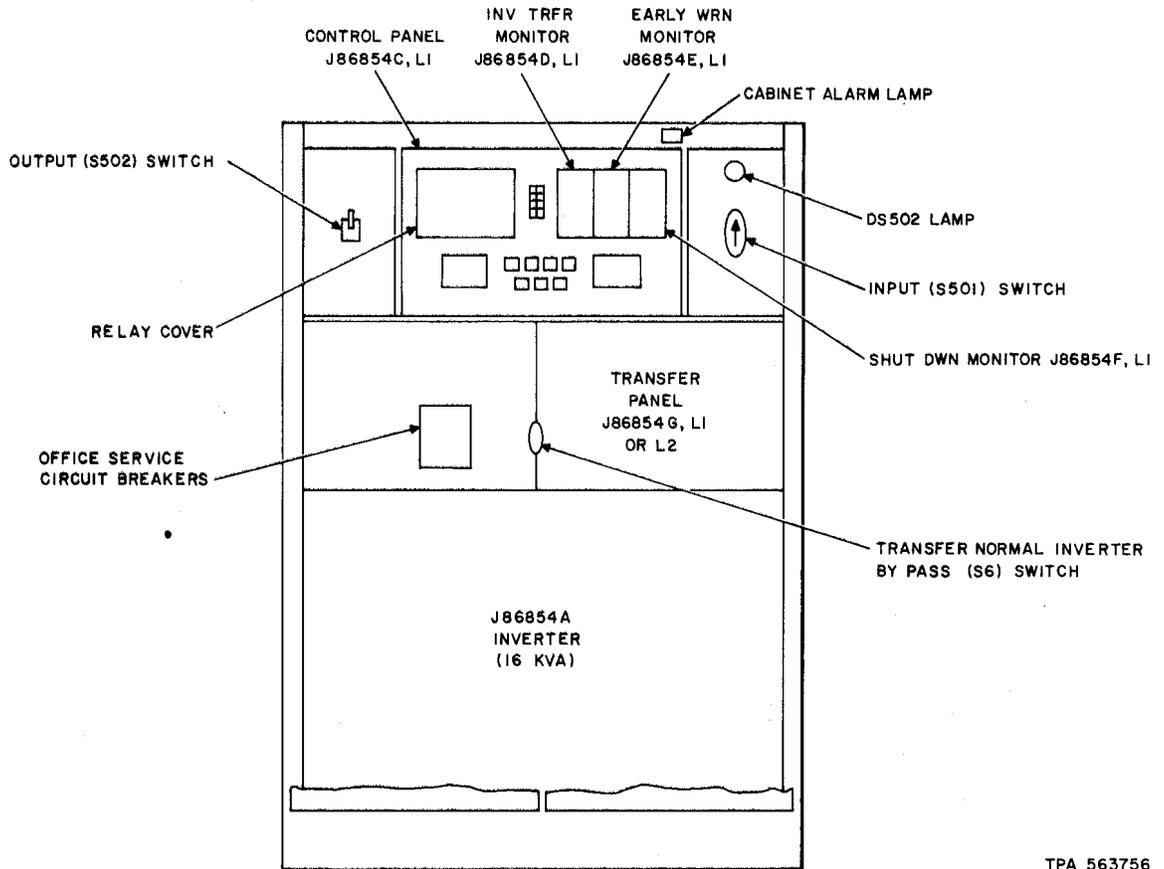
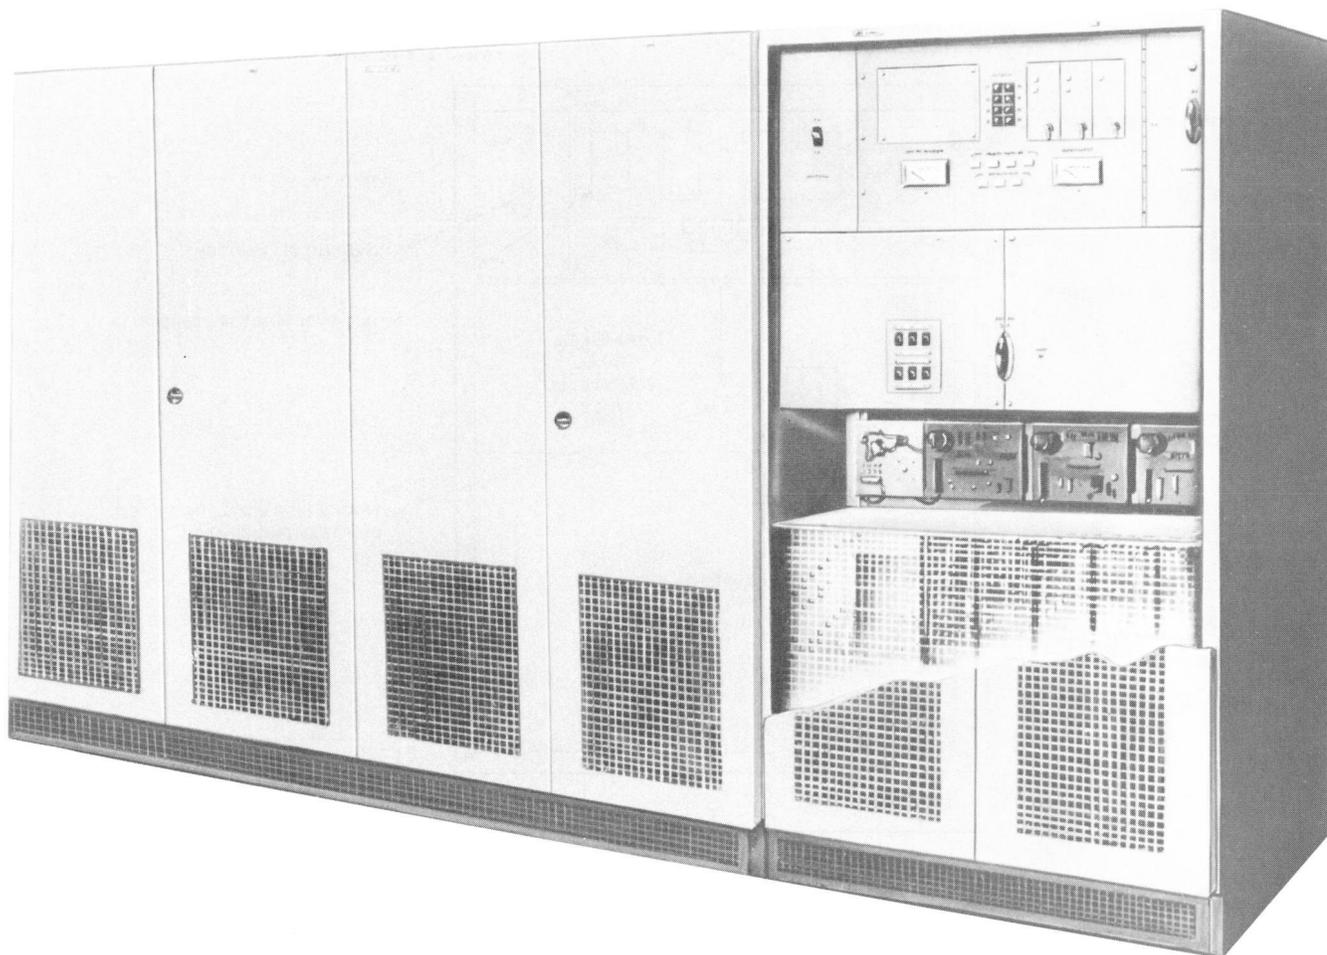
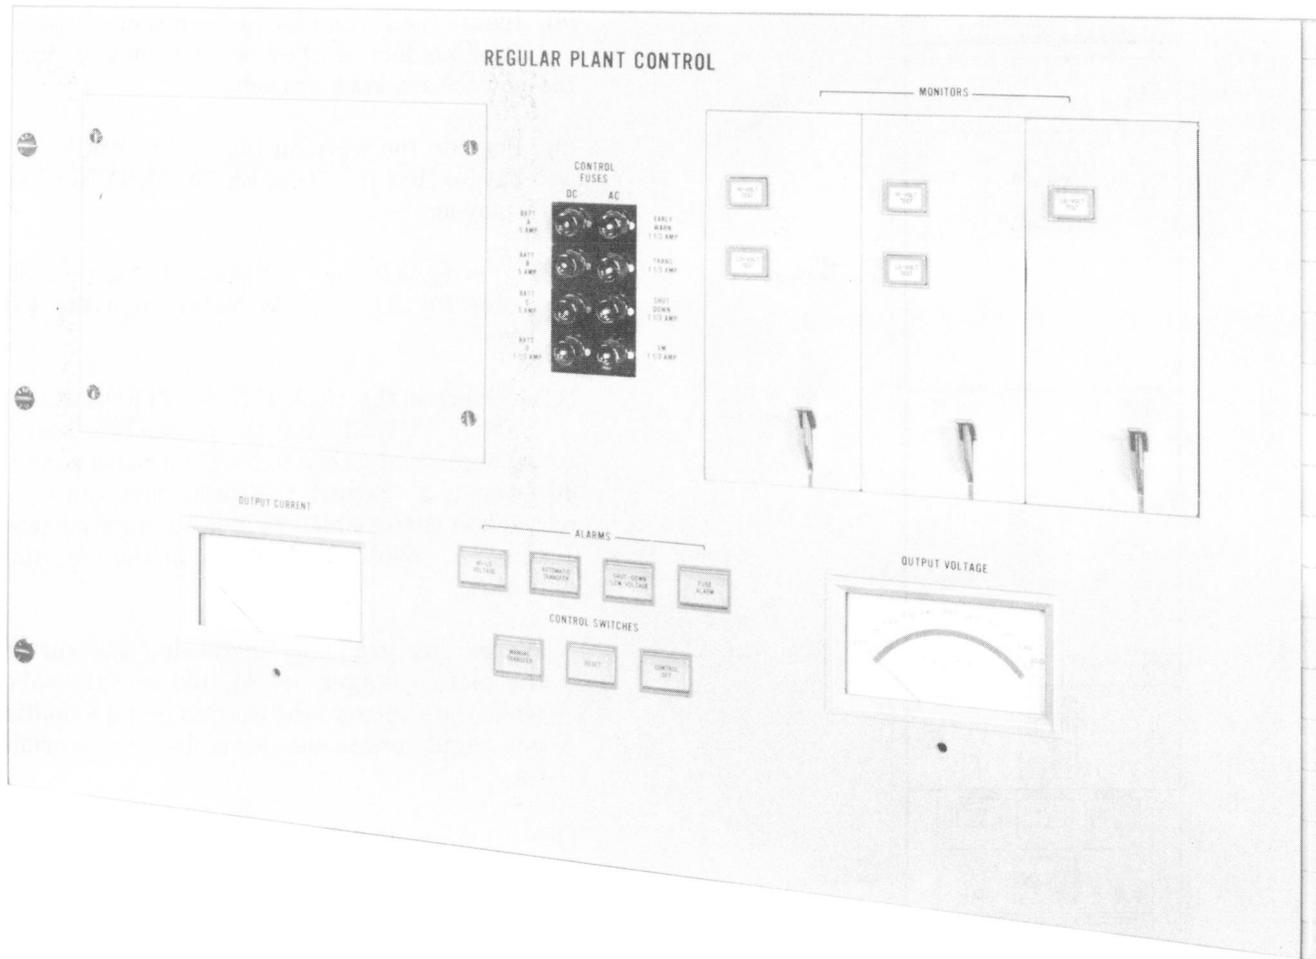

Fig. 6—KS-19738 Inverter
Fig. 7—Partial View of 521A Power Plant Lineup—Cutaway View Shows a KS-19738 Regular Inverter
Fig. 8—J86854C Control Panel of KS-19738 Regular Inverter
1.16 Each inverter in the combination plant must be started manually by the inverter INPUT (S501) switch. The load on an inverter can be manually disconnected from the inverter by the OUTPUT (S502) switch. The CONTROL OFF switch on the REGULAR PLANT CONTROL panel can be used to disable the automatic control circuits of the inverter. Switches are provided for testing the alarm circuits of the inverter. Alarms are provided in the inverter to indicate fuse, circuit breaker, and monitor failures. Refer to Fig. 6 for an illustration of the KS-19738 inverter and Fig. 7 for a partial view of a 521A power plant lineup. Refer to Fig. 8 for a photograph of the REGULAR PLANT CONTROL panel.